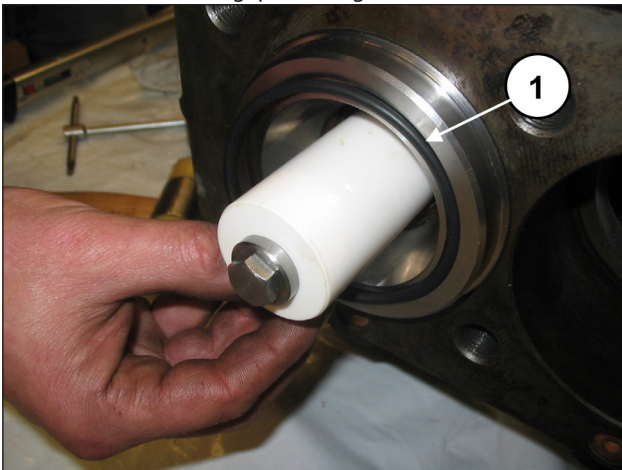
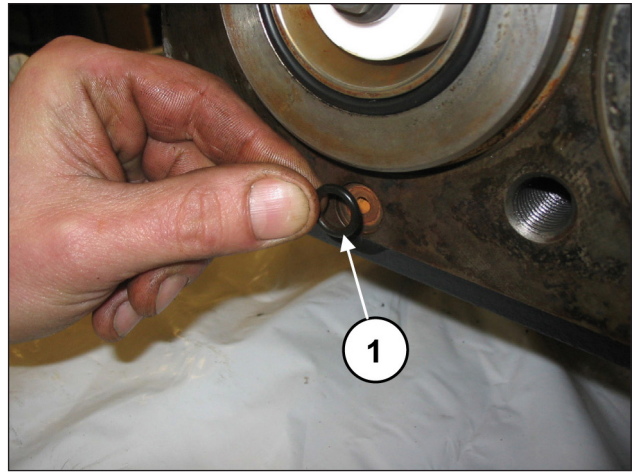

Fig. 142
Fig. 143
Install the front O-ring in the liner (pos. ①, Fig. 142) and the recirculation hole O-ring (pos. ①, Fig. 143).